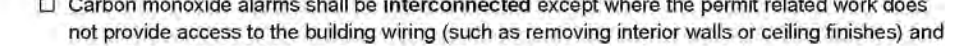

Figure 1: Smoke Alarms and Smoke Detectors in Sloped/Peaked Ceilings
Alarms in peaked or sloped ceilings must be within 3 feet horizontally and no closer than 4 inches vertically to the peak. Avoid placing alarms in dead air spaces; refer to Figure 1. (NFPA 72 29.8.3.1, 29.8.3.2, 29.8.3.4 (9), (10))